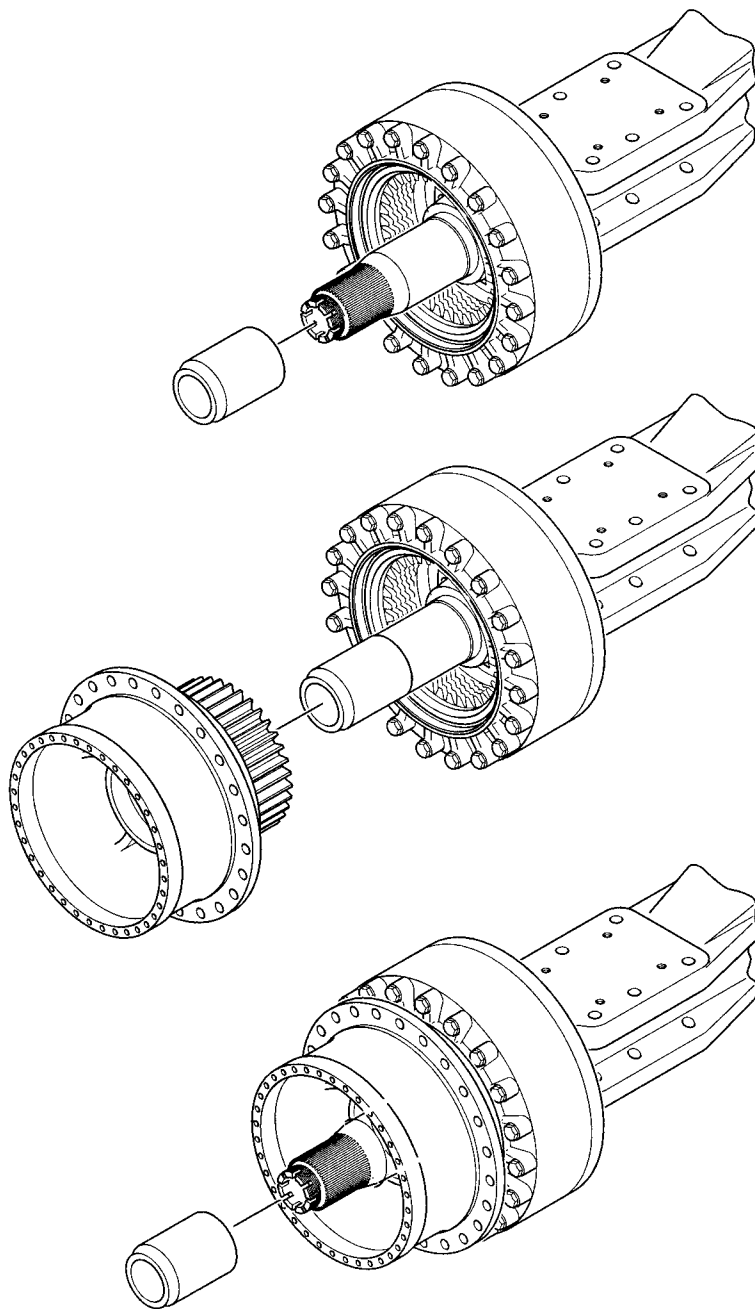

Fig. 6 - Hub Assembly Installation
hub guide sleeve tool 15500016 onto axle stub (29) (see Fig. 6).
6. Using suitable lifting equipment, lift hub assembly (38) and slide into position on axle. Take care when inserting hub splines into brake assembly (40) so as not to damage plates.
7. Carefully feed hub (38) onto axle stub (29) as far as it will go by sliding it gently forwards.